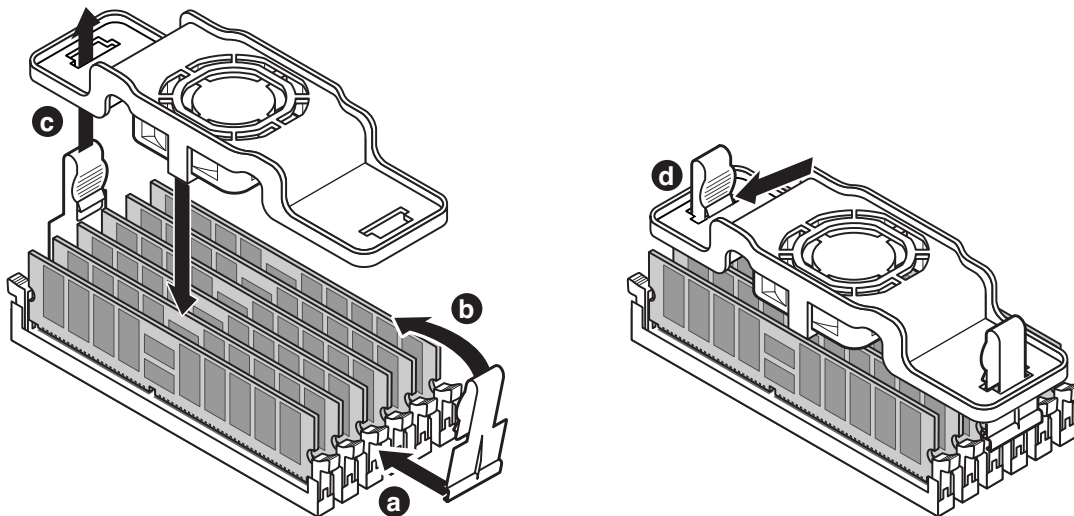

FIGURE 5-8 Vertical Fan Support Bar Location
2. Slide the DIMM fan assembly over the vertical support bars until the assembly snaps into place (see Figure 5-8 and follow steps a through d below).